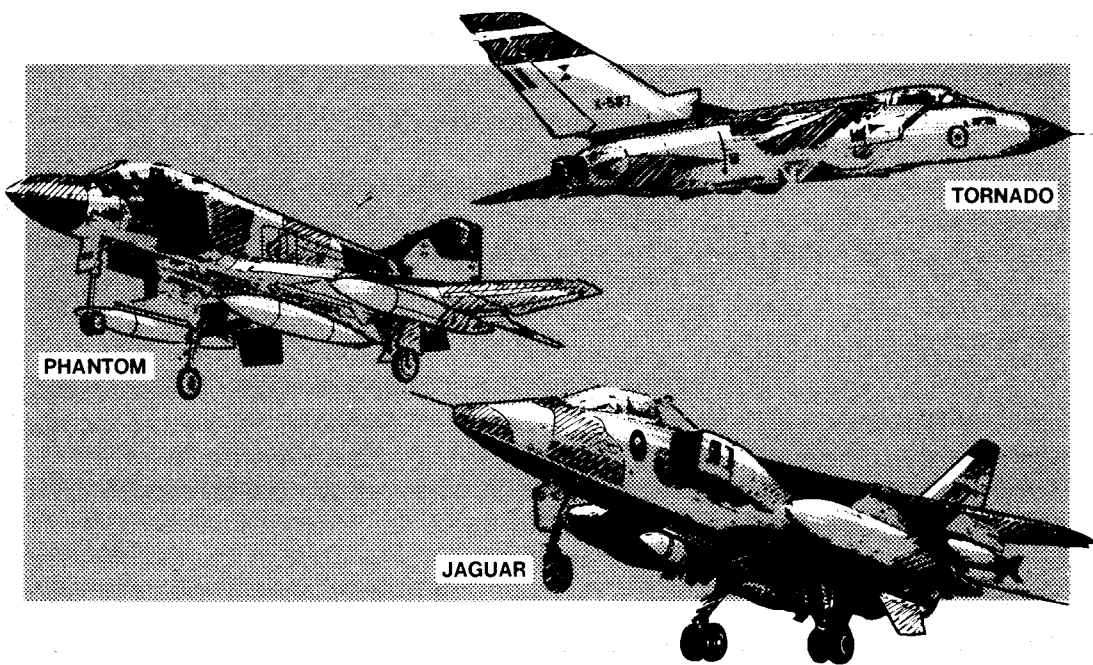

Fig 25.3 FOD could reduce these to scrap
13. In spite of the widespread propaganda given at all units on the dangers of FOD, the RAF still manages to produce hundreds of occasions of such damage each year. The effects range from the superficial damage caused by the impact of wind and jet-blown dust, to severe internal damage resulting from tools and servicing debris being sucked into the gas turbine engine. The many FOD incidents cost millions of pounds each year, in lost aircraft, replacement parts, and servicing time. The total value of the three aircraft illustrated in Fig 25.3 is of the order of £10 million; but, as a result of FOD, this could very quickly be reduced to *scrap value*.